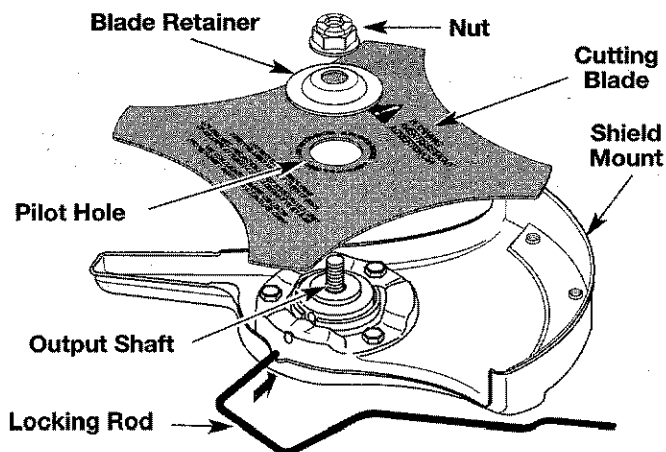

Fig. 11
- Place the cutting blade on the output shaft (Fig. 11).